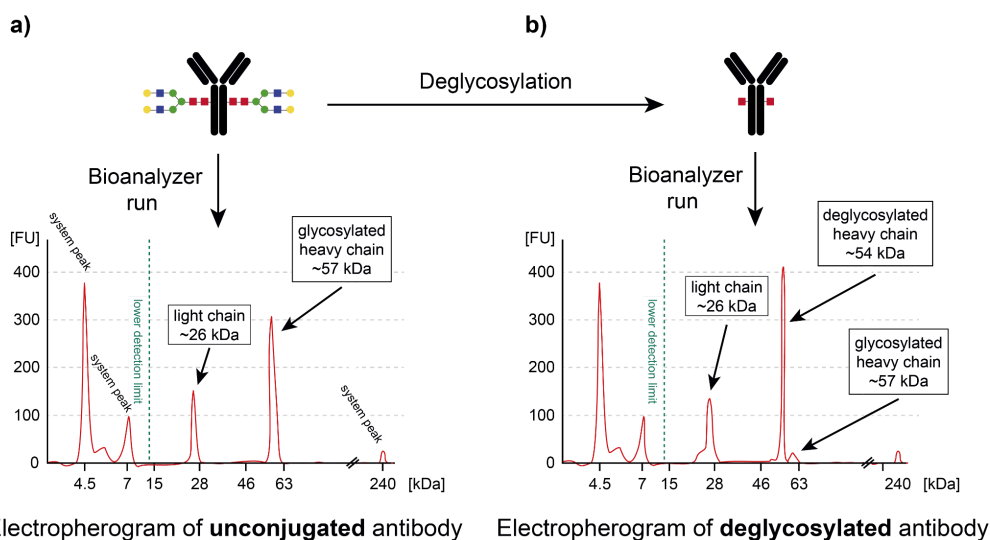

Figure 5. Electropherogram of unconjugated and deglycosylated antibodies.
3. **Figure 5** shows the relevant peaks to evaluate the deglycosylation process. To measure the deglycosylation efficiency (DE), record the relative concentration [ng/ μl] of the following peaks (see **Figure 5** as a reference):
4. Copy the concentrations of the peaks into the corresponding cells of the 'Deglycosylation and Labeling Efficiency Calculator' to calculate the deglycosylation efficiency (DE) automatically.